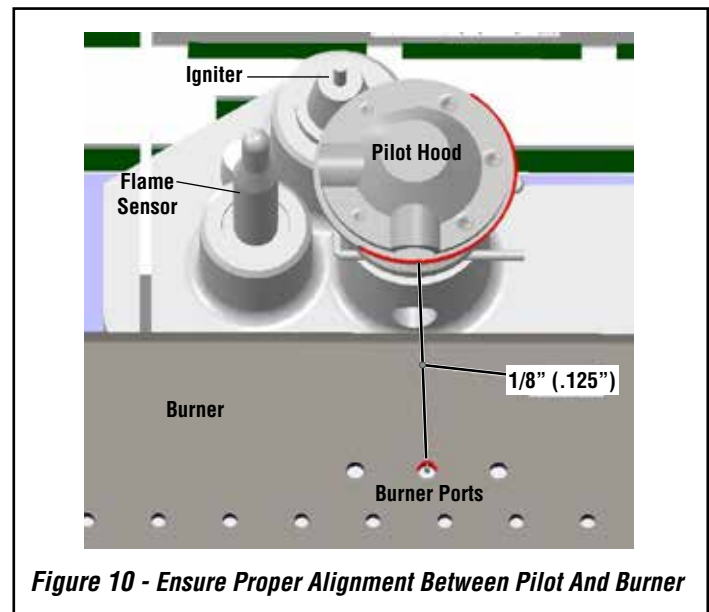

Figure 10 - Ensure Proper Alignment Between Pilot And Burner
Step 16. Ensure the proper relationship of the pilot to the main burner as shown in **Figure 10**.